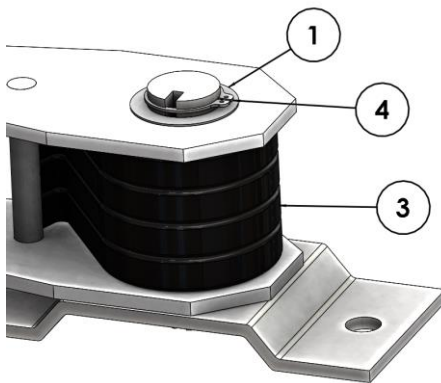

Figure 4.13
Continue installing remaining springs (3), then flat washer (1), and secure with snap ring (4) as shown in Figure 4.13. Repeat procedure for opposite side of system.